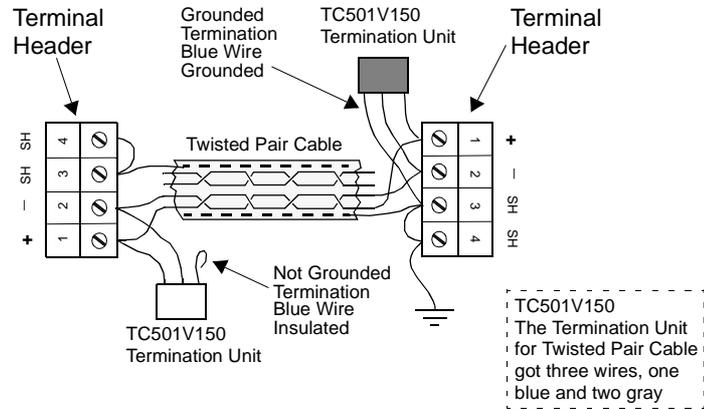

Figure A-13. Schematic Image of One Twisted Pair Media Point-to-Point Connection
In TC505/TC506 all shield connections (SH) are connected internally, + connections are internally connected vertically and - connections are internally connected vertically. In Figure A-13 a schematic picture over how the cables must be connected and the terminal connection in TC505/TC506 is shown.